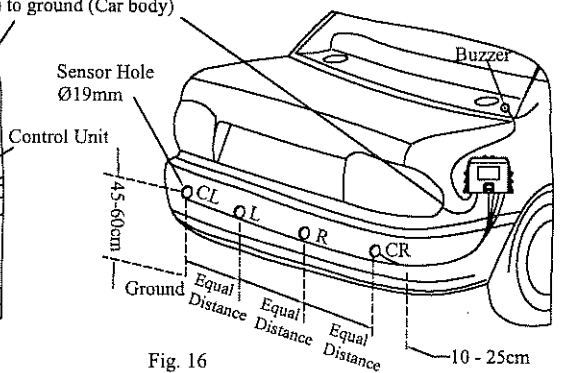

Fig. 16
1. Measure from both corners of the rear bumper and mark a horizontal distance of 10cm ~ 25cm for both corner sensors CL and CR right ( Fig. 16)
2. Mark sensor left (L) and sensor right (R) which have equal distance as shown in Fig. 16.
3. Measure from the ground level a distance of 45cm ~ 60cm to indicate the final position of the sensors. (Fig. 16)
6. Insert the left, right, corner left and corner right sensors into the 19mm diameter sensor holes respectively. (Fig.16)